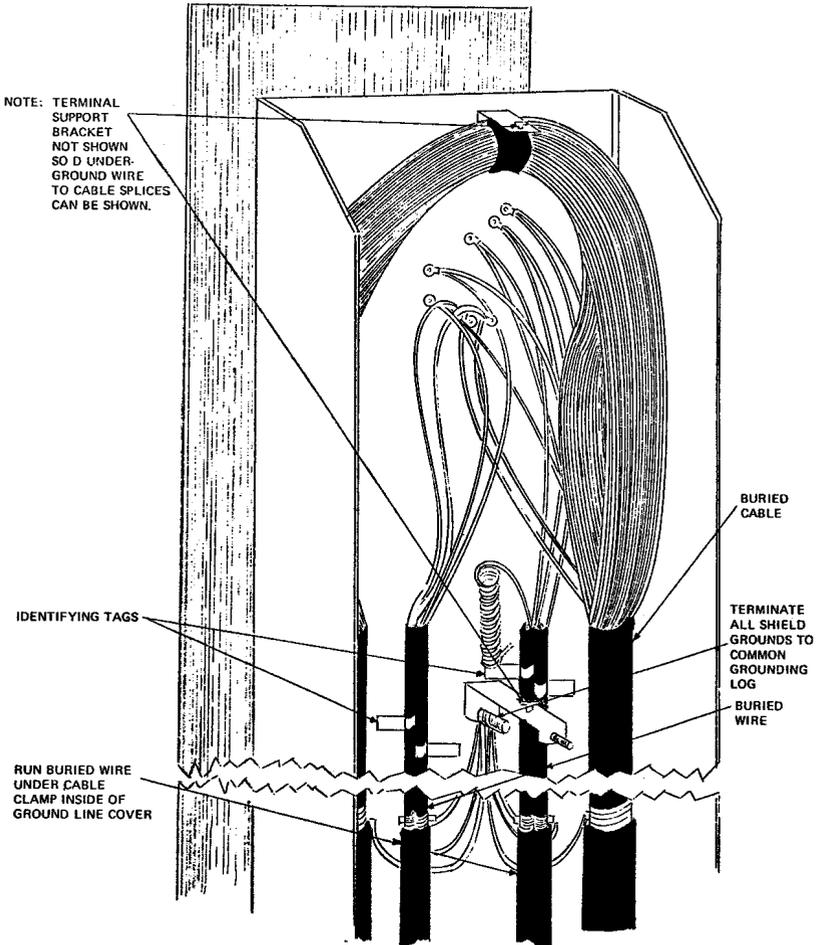

FIGURE 5. D Underground Wire in an F-3 Type Pedestal Mounting
4.07 Attach the armor shield of the buried wire to the grounding harness connector and fasten securely. Run the buried wire and the cable pair to be connected through the nylon cable clamp and bend down over it. Connect to the cable pair by using the appropriate size Scotchlok type connectors. See Figure 5.